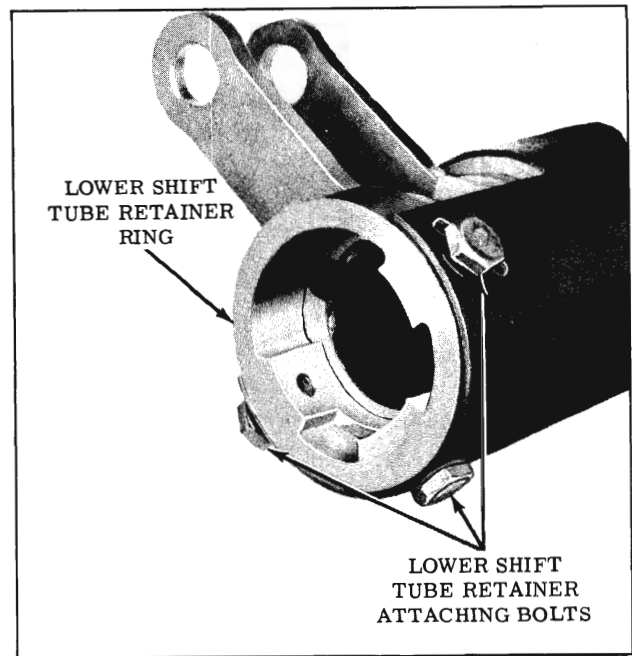

Fig. 4-294 Lower Shift Tube Retainer
16. Remove (3) bolts from lower shift tube retainer. (Fig. 4-294)
11. Insert lower shift tube retaining ring into mast jacket and install (3) retaining bolts finger tight. Position as shown in Fig. 4-294.
- 26. Adjust clearance between lower shift lever and retaining ring to .005 inch by moving the retaining ring back and forth in slanted slot of mast jacket as shown in Fig. 4-294.
- 3. Install the shift tube retaining ring in bottom of mast jacket, compressing the spring. Position as shown in Fig. 4-294. Tighten shift tube retainer ring attaching bolts with bolts in uppermost position of slots.